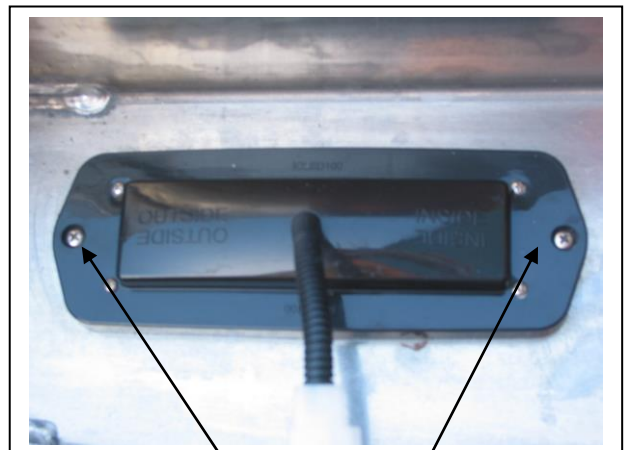

Figure 4
10. Fit ECB LED indicator / park lights (supplied) into protection bar as per instructions supplied with the LED indicator kit. **NOTE: Ensure park light is to outside. See figure 4.**